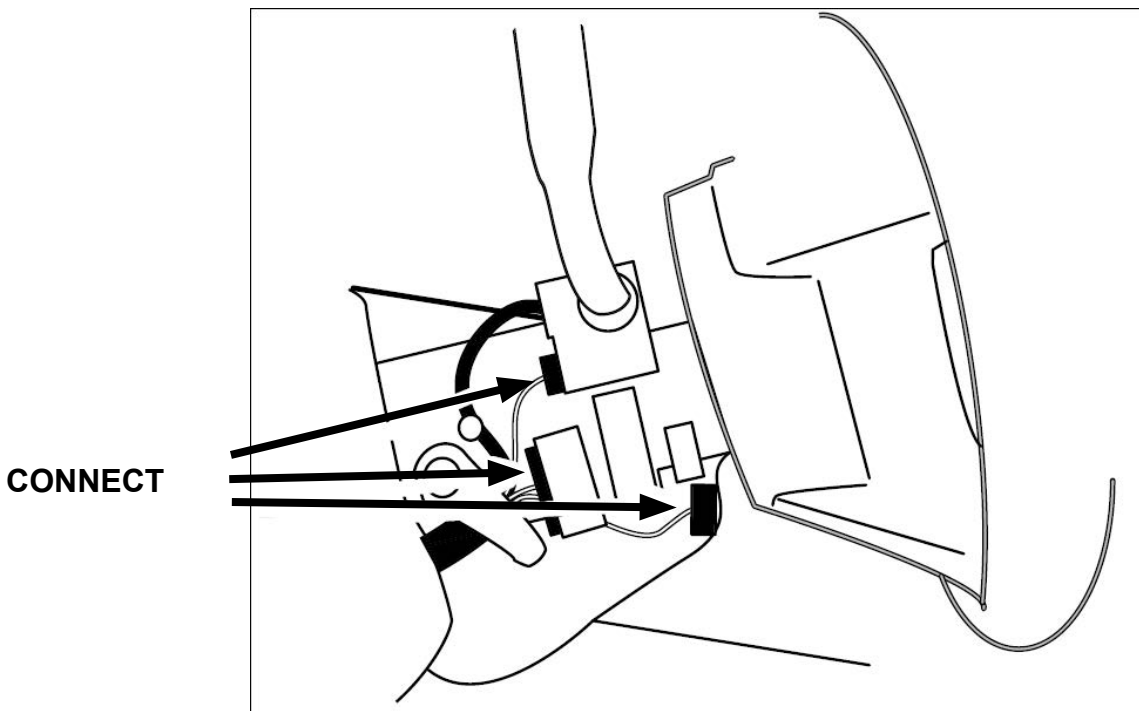

FIGURE 6
36. Connect the three connectors on the left side of the column. Install the pin-type retainers. See Figure 6.